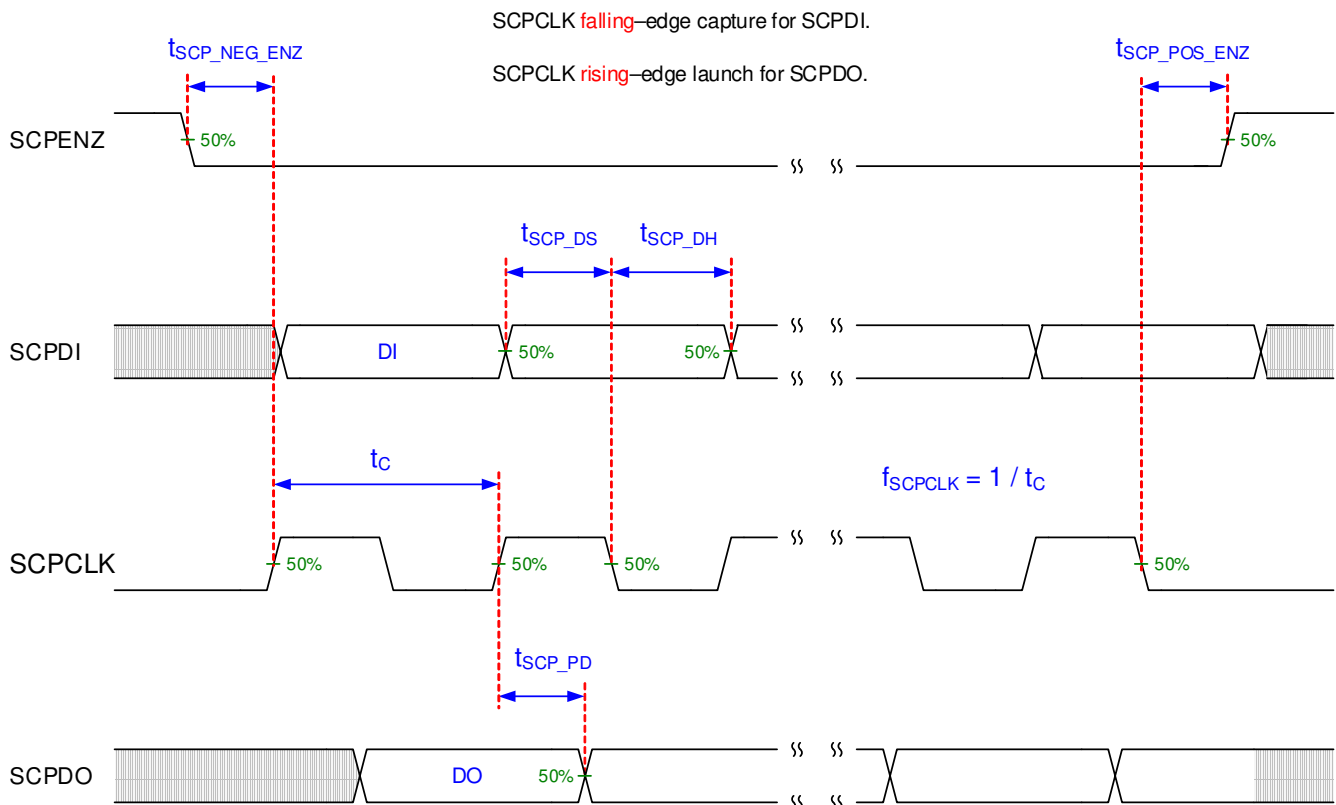

Figure 2. SCP Timing Requirements
(6) PWRDZ input pin resets the SCP and disables the LVDS receivers. PWRDZ input pin overrides SCPENZ input pin and tristates the SCPDO output pin.
(7) The SCP clock is a gated clock. Duty cycle must be 50% ± 10%. SCP parameter is related to the frequency of DCLK.
(8) See Figure 2.